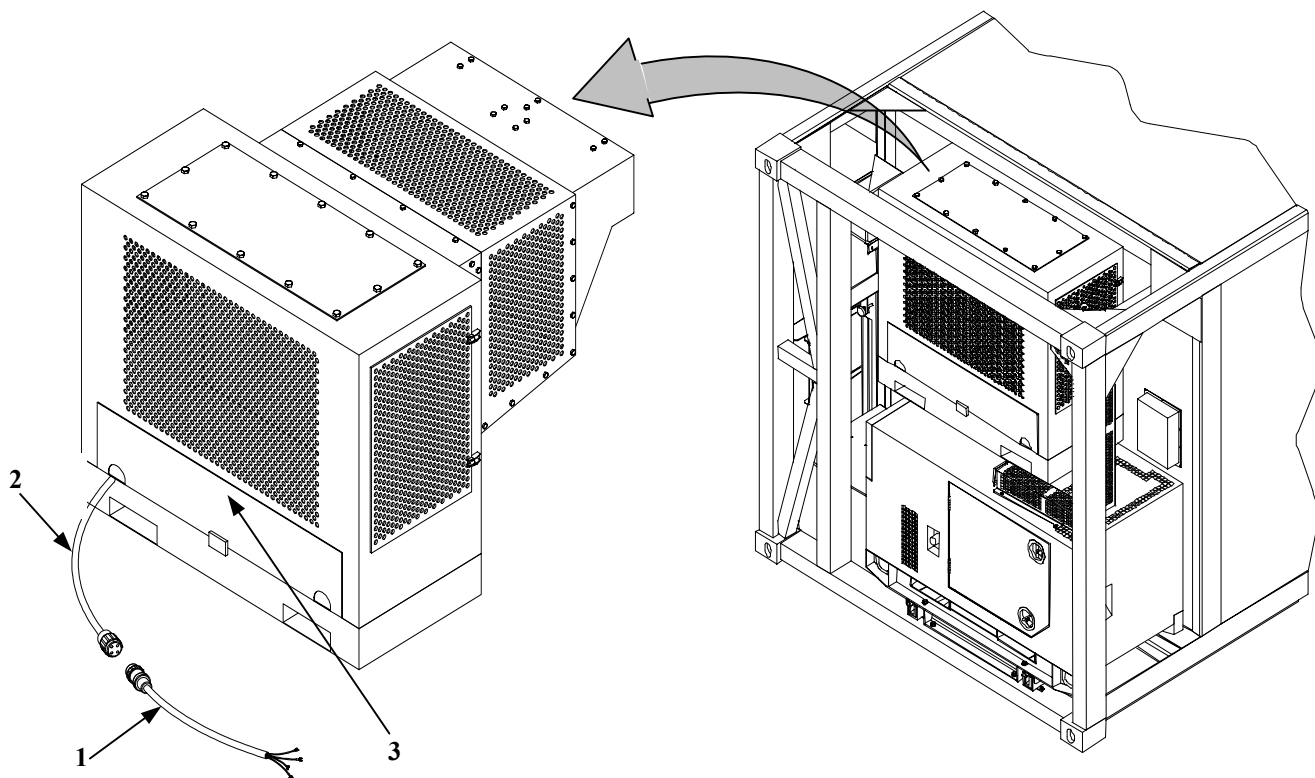

Figure 4. Air Conditioner Input Power Cable
1. Connect generator power cable (1, Figure 4) to refrigeration unit power cable (2) as follows: